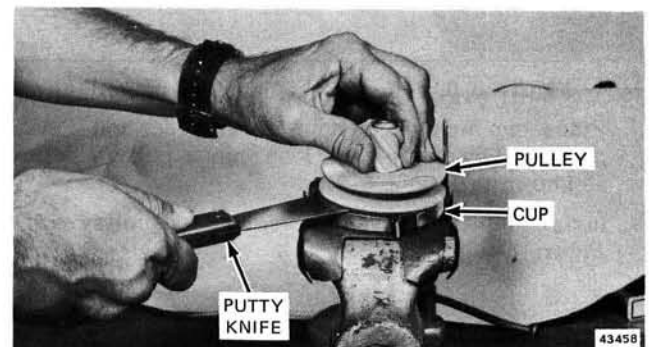

Figure 8-6. Removing Pulley From Cup and Spring
4. Use a putty knife or other suitable tool to retain spring in cup, and remove pulley from cup. See Figures 8-6 and 8-7.